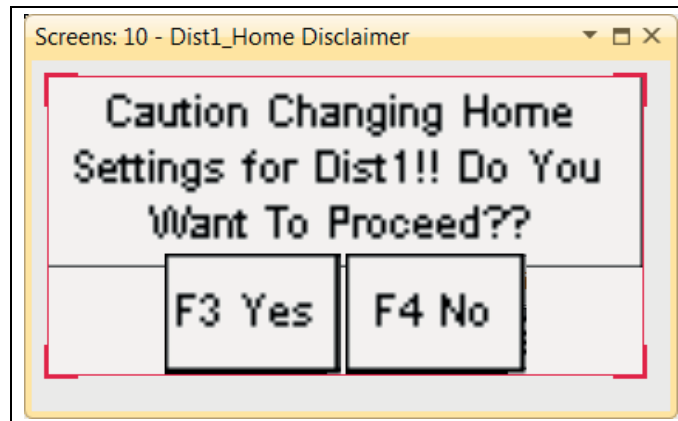

Figure 5K
11. After pressing the **F3** Teach Home key, the disclaimer screen will appear as in Figure 5K. Press the **F3** Yes key if you wish to perform the home operation.